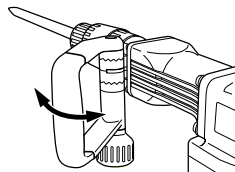
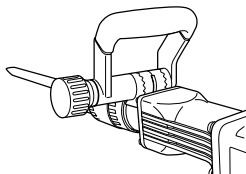
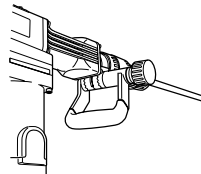

Fig. 7
Fig. 8
Fig. 9
- (2) Adjust it to a position where vertical (up-and-down) operation can be facilitated as illustrated in Fig. 7, Fig. 8, and Fig. 9.
- (3) Turn the grip in the direction of Ⓑ and fix the handle.